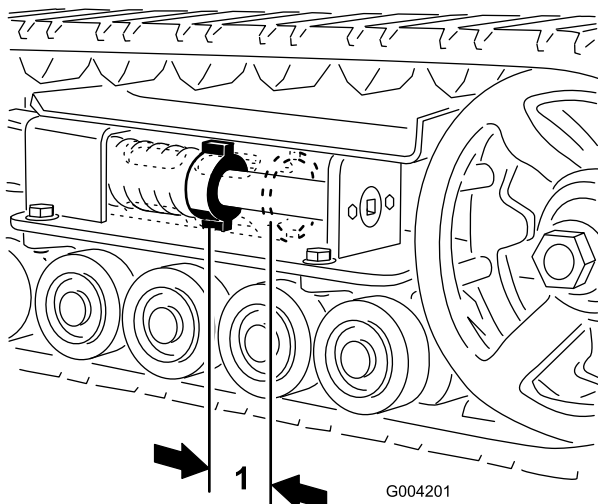
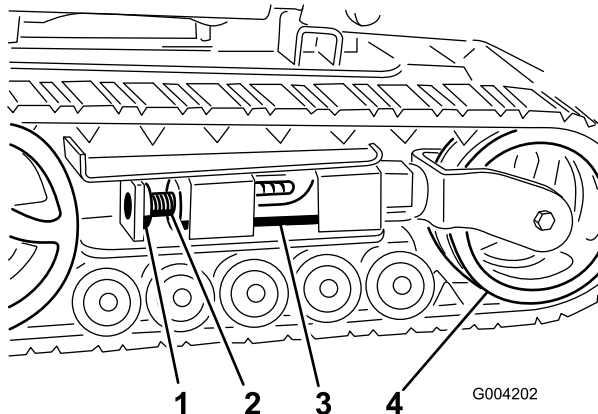
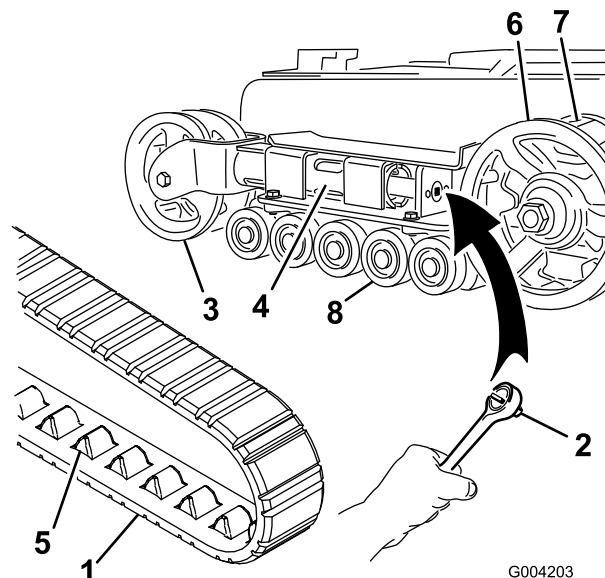
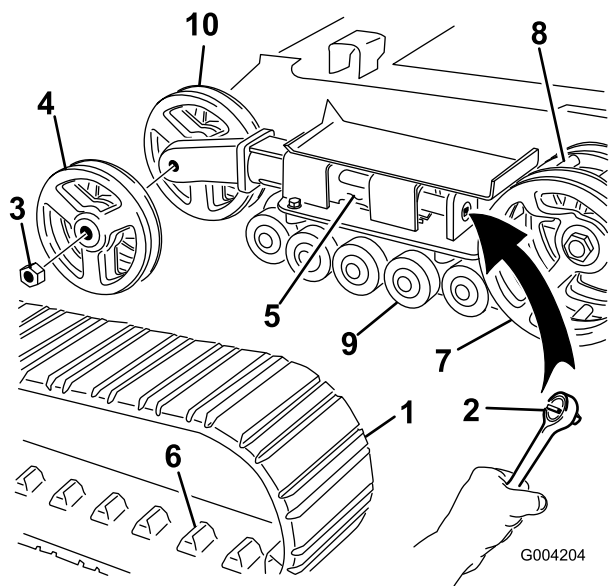

Figure 37
Figure 38
Figure 39
Figure 40
Check and adjust the track tension after the first 50 operating hours and every 100 operating hours thereafter. There should be 2-3/4 inches (7 cm) between the tension nut and the back of the tension tube (Figure 37). If not, adjust the track tension using the following procedure:
3. Remove the locking bolt and nut (Figure 38).
4. Using a 1/2 inch drive socket (Figure 39), turn the tensioning screw counter-clockwise until the distance between the tension nut and the back of the tension tube (Figure 37) is 2-3/4 inches (7 cm).
5. Align the closest notch in the tension screw to the locking bolt hole and secure the screw with the locking bolt and nut (Figure 38).
4. Using a 1/2 inch drive socket, release the drive tension by turning the tensioning screw clockwise (Figure 38 and Figure 39).
5. Push the tension wheel toward the rear of the unit to move the fork tube against the frame (Figure 39). (If it does not touch the frame, continue turning the tensioning screw until it does.)
7. When the track is off of the tension wheel, remove it from the drive sprocket and road wheels (Figure 39).
8. Beginning at the drive sprocket, coil the new track around the sprocket, ensuring that the lugs on the track fit between the spacers on the sprocket (Figure 39).
9. Push the track under and between the road wheels (Figure 39).
11. Turn the tensioning screw counter-clockwise until the distance between the tension nut and the back of the fork tube (Figure 37) is 2-3/4 inches (7 cm).
6. Remove the nut securing the outer tension wheel and remove the wheel (Figure 40).
7. Remove the track (Figure 40).
8. Remove the nut securing the inner tension wheel and remove the wheel (Figure 40).
12. Install the inner tension wheel and secure it with the nut removed previously (Figure 40).
14. Install the new track, ensuring that the lugs in the track fit between the spacers in the middle of the drive sprocket (Figure 40).
15. Install the outer tension wheel and secure it with the nut removed previously (Figure 40).
17. Turn the tensioning screw counter-clockwise until the distance between the tension nut and the back of the tension tube (Figure 37) is 2-3/4 inches (7 cm).
4. Using a 1/2 inch drive socket, release the drive tension by turning the tensioning screw clockwise (Figure 38 and Figure 40).
5. Push the tension wheel toward the rear of the unit to move the tension tube against the frame (Figure 40). (If it does not touch the frame, continue turning the tensioning screw until it does.)